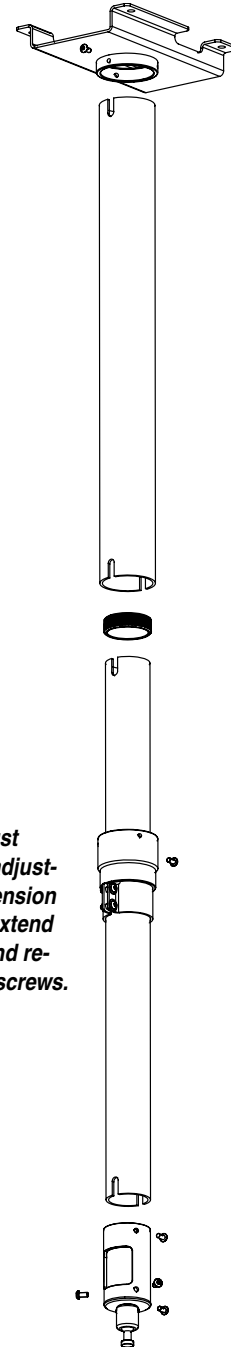

Figure 1
- ① Screw Outer Column into Ceiling Plate (see Fig. 1).
- ② Attach Positive Stop to upper end of Inner Column, then slide Inner Column down through Extension Adapter. Tighten Extension Adapter using two 10-32 x 5/8" torx screws and #10 washers.
- ③ Install Extension Adapter and Inner Column assembly to Outer Column. Secure with one 10-32 x 5/8" torx screw. For increased security, replace the standard screw with a security screw (provided).
- ④ Attach Bracket Adapter and Ball Joint Assembly to Inner Column and secure with provided screw (see Fig. 1). For increased security, replace the standard screw with a security screw (provided).